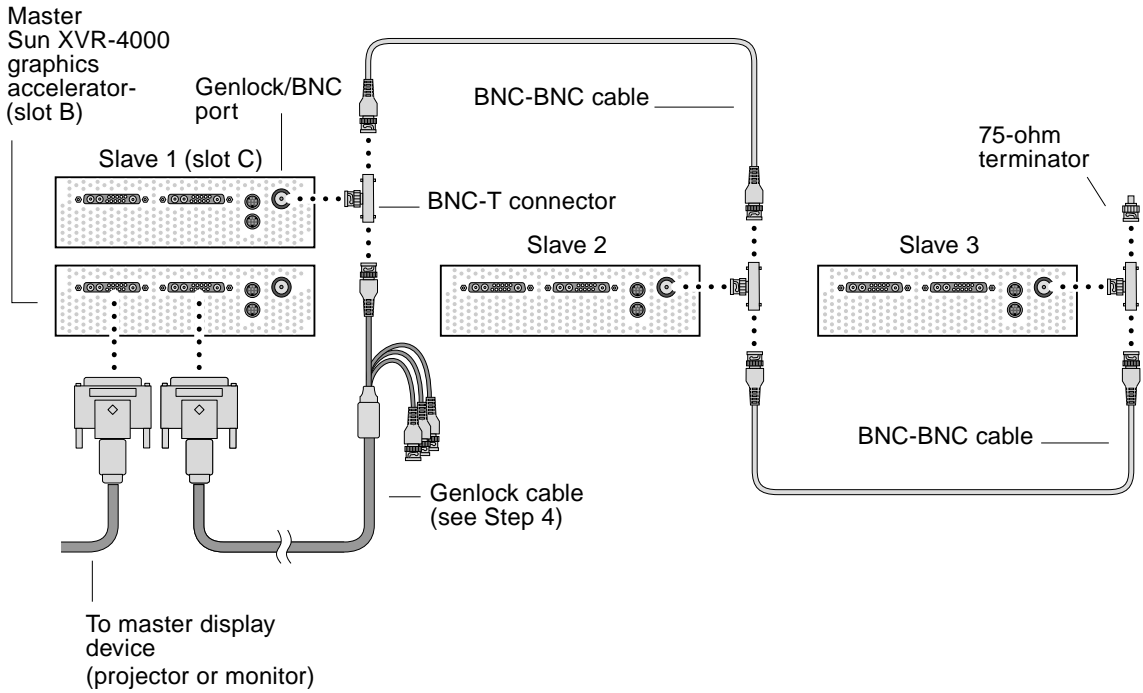

FIGURE 8-2 Sun XVR-4000 Graphics Accelerator Genlock Cabling
2. **Connect the 13W3 connector end of the genlock cable to the Sun XVR-4000 graphics accelerator 13W3 monitor connector selected for genlocking (FIGURE 8-2).**
3. **Attach a BNC-T connector to the slave back panel genlock/BNC connector of the Sun XVR-4000 graphics accelerator (FIGURE 8-2).**
4. **Connect the proper BNC connector end of the genlock cable to one end of the BNC-T connector (FIGURE 8-2).**
FIGURE 8-2 shows the master Sun XVR-4000 graphics accelerator in Slot B of the Sun Fire V880z server. The first slave Sun XVR-4000 graphics accelerator is in Slot C. The second and third slaves are on two additional Sun Fire V880z servers.